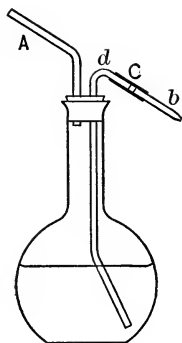

FIG. 3.
EXERCISE.—To put these principles in practice, make the wash bottle shown in the cut (Fig. 3). It will frequently be needed, and its parts may be used in making other apparatus. (*A*, *b*) and (*d*) are of glass. (*C*) is a connector of rubber tubing.
(2) **Filtration.** — In the second method the insoluble solid is brought upon a filter. Water is then poured, or better, spirted upon it from a wash bottle (Fig. 3). When this water has all run off, water is again applied and allowed to run off completely. The same operations are repeated until the solid is freed from soluble matter. Why is it best to let the water run off completely each time before putting on more? This method is used especially with precipitates.
6. Chemical properties of hydrogen. — Being sure by the test given in (4), that the hydrogen escaping from the generator is free from air, put into the end of the rubber delivery tube the jet (*d*, Fig. 3). Before applying a flame be ready to note that when first ignited the hydrogen flame is colorless. It is only when the glass becomes hot that the flame is yellow from the sodium of the glass. Introduce into the hydrogen flame a piece of platinum wire. Kindle with it a match and a piece of charcoal. What is shown by these experiments?